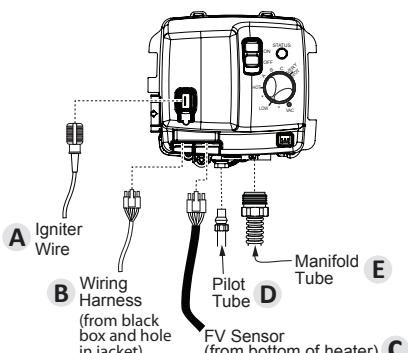

Figure 46 - Gas valve connections.
- 6** Reconnect the manifold tubing (3/4" wrench), pilot tubing (7/16" wrench) to the gas control valve/thermostat. Also reconnect the FV sensor wires, wiring harness, and igniter wire. (See Figure 46 for the correct position of each connection.) Do not cross-thread or apply any thread sealant to the fittings.